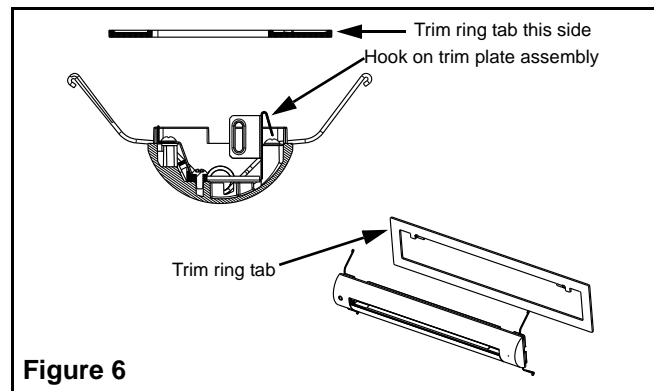

Figure 6
- 3. Recessed installation (Figure 6). Attach the flat trim ring to the trim plate. Orient the trim ring and snap it with the two tabs behind the hooks of the side brackets.